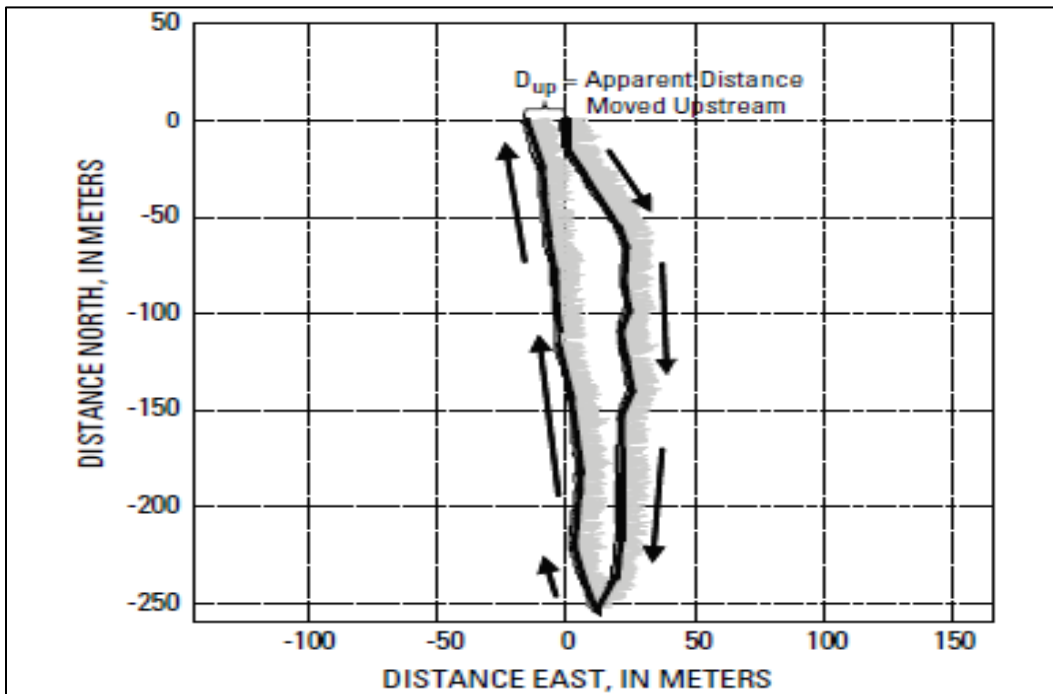

Figure 3.—Example of a moving bed measured with the loop method (Mueller et al., 2013).
- b. **Loop Test.**—The ADCP is moved continuously across the channel width and returns to the starting position while recording. The test should be performed for a minimum of 3 minutes. A moving bed is present if the moving-bed velocity is greater than 0.04 foot per second (ft/s) and less than 1% of the mean water velocity, or is in a distorted ship track loop (figure 3). If the moving-bed velocity is greater than 0.04 ft/s and less than 0.8 ft/s, a stationary test will provide more conclusive results. The moving-bed velocity can be computed from the distance the ADCP moved upstream of the starting location, and the time required to keep the loop.